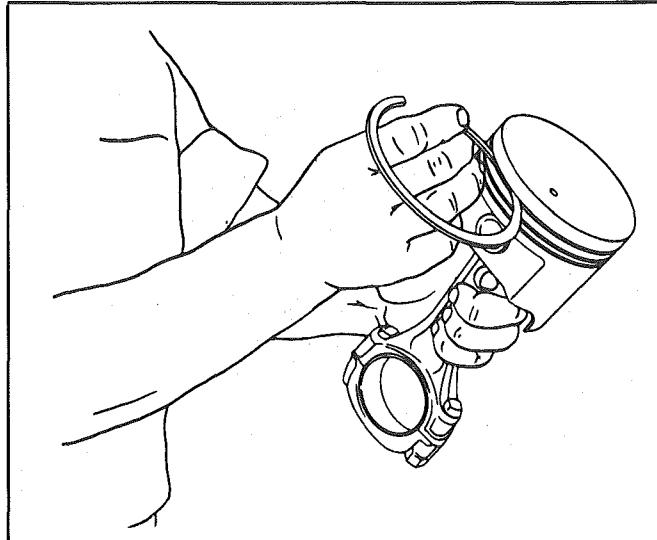

Fig. 6A3-48 Checking Ring in Groove
7. Slip the outer surface of the top and second compression ring into the respective piston ring groove and roll the ring entirely around the groove (Fig. 6A3-48) to make sure that the ring is free. If binding occurs at any point, the cause should be determined. If binding is caused by ring groove, correct by dressing with a fine cut file. If the binding is caused by a distorted ring, check a new ring.